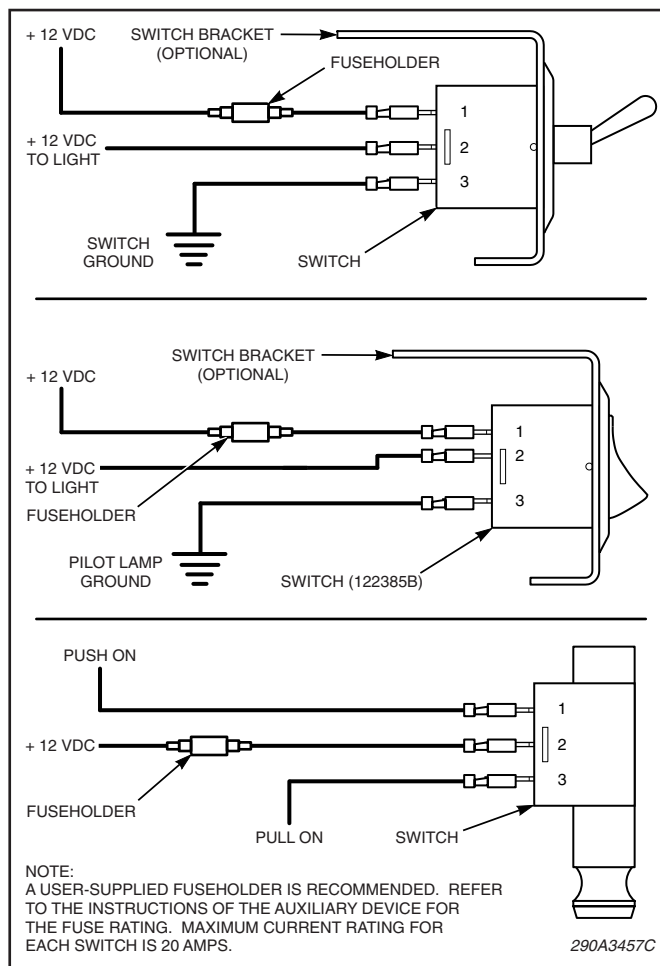

Figure 1.
- E. See figure 1 for wiring instructions.